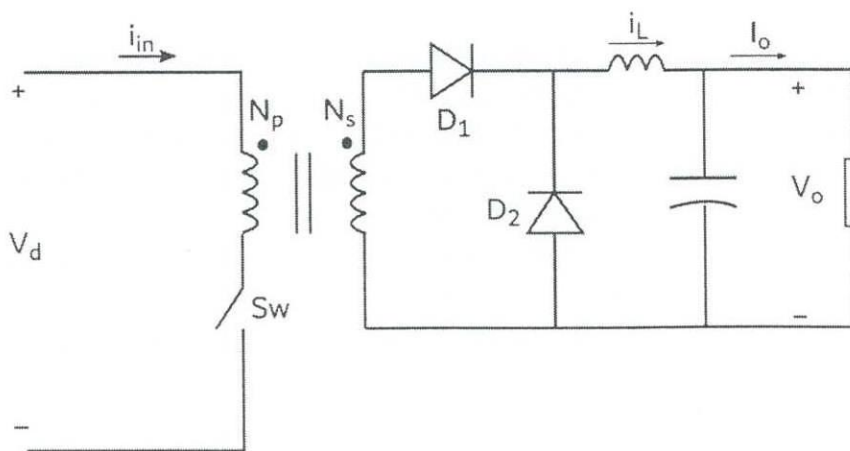

Figure Q1. Circuit diagram of an ideal forward converter.
- ii) Forward converter is one of the popular switching regulator topologies used in DC power supplies. The circuit diagram of an ideal forward converter is shown in Figure Q1. Draw the circuit diagram of a practical forward converter and explain the reason for using a tertiary winding in the practical forward converter circuit.
- b) A forward converter needs to be designed to give 48 V DC output voltage for the input voltage variation of 150 V - 220 V. The power rating of this converter is 2 kW. The frequency of 20 kHz is chosen as the switching frequency of the MOSFET switch. Consider the circuit diagram of the forward converter shown in Figure Q1 along with the tertiary winding with N_T turns and diode D_3 connected in series.